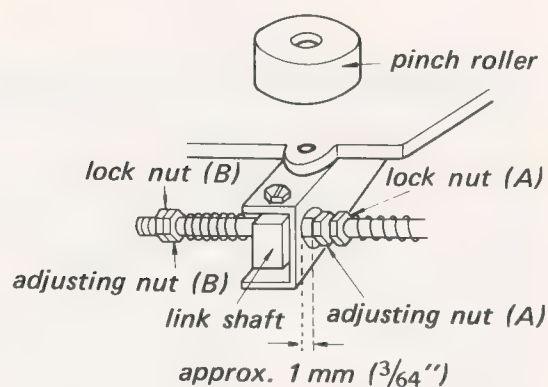

Fig. 3-1-4. Pinch roller pressure adjustment (1)
See Fig. 3-1-4 and 3-1-5. This adjustment should be made after the Reset Spring Housing Adjustment.
- (1) Remove the Reel Panel.
- (2) Set the unit to the play mode.
- (3) Adjust the adjusting nut (A) for 1 mm ($\frac{3}{64}$ ") clearance between the Link Shaft and the adjusting nut (A). See Fig. 3-1-4.